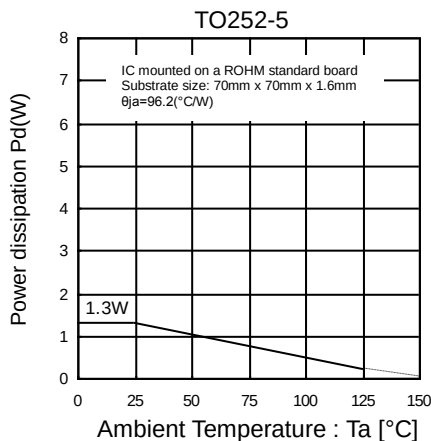
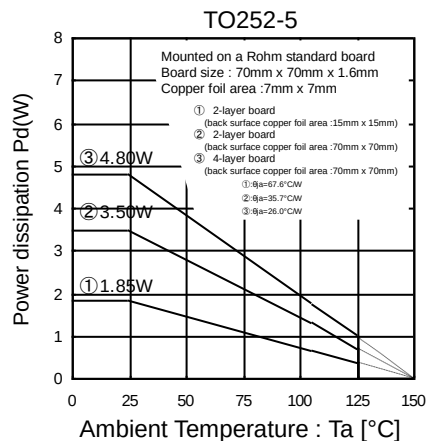
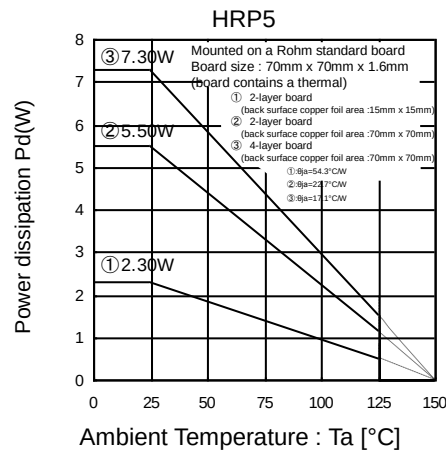

Figure 15
Figure 16
Figure 18
Refer to the heat attenuation characteristics illustrated in Figure 15 to Figure 18 when using the IC in an environment where T_a exceeds 25°C. The operating temperature of the IC greatly influences the characteristics of the IC. If the temperature exceeds the maximum junction temperature T_{jmax} , the elements of the IC may be deteriorated or damaged. It is necessary to give sufficient consideration to the heat of the IC in view of two points, i.e., the protection of the IC from instantaneous damage and the maintenance of the reliability of the IC in long-time operation.
In order to protect the IC from thermal destruction, it is necessary to operate the IC below the maximum junction temperature (T_{jmax}). Figure 15 and Figure 16 illustrate the power dissipation/heat attenuation characteristics for the TO252 package. Operate the IC within the power dissipation P_d . The following method is used to calculate the power consumption P_c (W).
$$I_{OUT} \leq \frac{2.496 - 12 \times I_{CC}}{12 - 5} \quad \left(\begin{array}{l} \text{Figure 16 } \textcircled{3} : \theta_{ja}=26.0^\circ C/W \text{ to } -38.4 mAW/^\circ C \\ 25^\circ C=4.80W \text{ to } 85^\circ C=2.496W \end{array} \right)$$